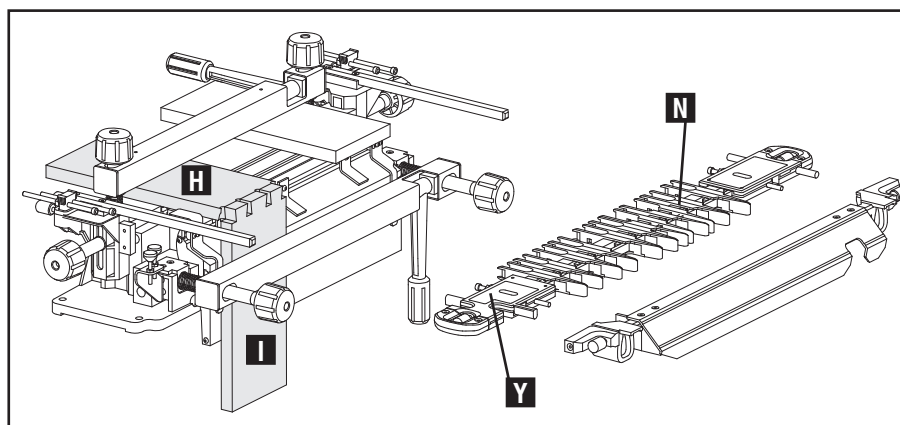

Fig. D11
1. Remove stabilizer bar and remove template. Flip template (N) Fig. D11 over and replace it back on the OMNIJIG® so the red "A Pins" label (Y) is located at the upper left side.